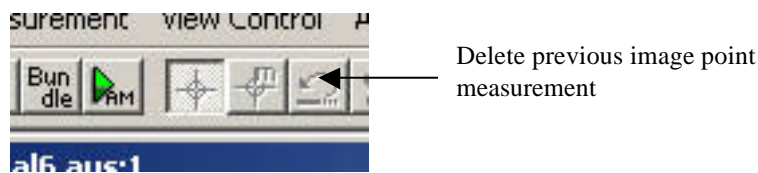

Figure 4.1: Settings for centroid measurement and digitise mode.
To observe targets in an image, the application must be in *digitise* mode. Click the *cross-hair* icon on the main toolbar or selecting **Digitise Mode** from the **Measurement** menu. When in *Digitise* mode, this menu item will be checked and the cursor appears as a cross hair within the image window. Observations are made using either centroid or manual measurement. To use centroiding on suitable targets, ensure that **Auto** from the **Measurement** menu is checked (this is the default setting). Repeated selection of this menu item will toggle centroiding on and off (Fig. 4.1).
Manual image point measurement can be alternatively initiated via a button on the toolbar. In order to set the Manual option, the image measurement button must be already selected (Fig. 4.1). Manual measurement is then invoked by simply clicking
**Note:** The button to the right of the Manual Measurement button in Fig. 4.1 has an 'undo function'. If this button is clicked, the previous image measurement is deleted. Clicking it twice deletes the last two measurements and so on.